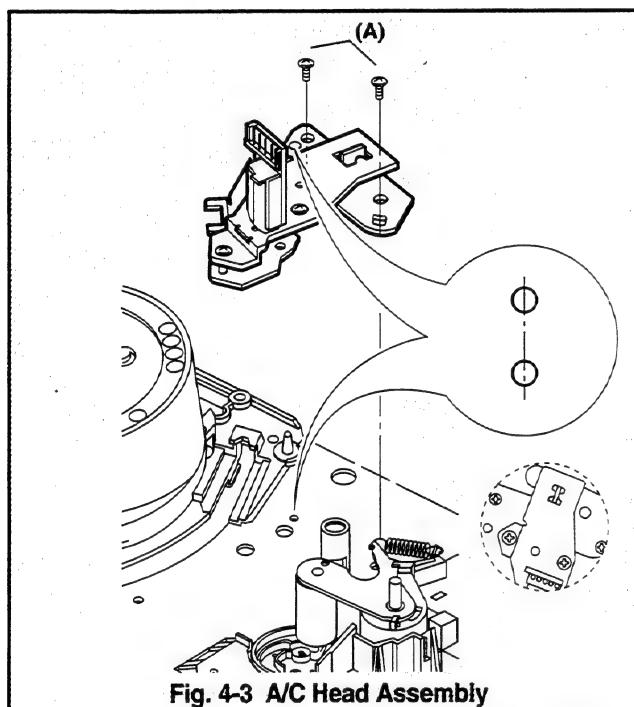

Fig. 4-3 A/C Head Assembly
1. A/C (Audio/Control) Head Assembly (Fig. 4-3)